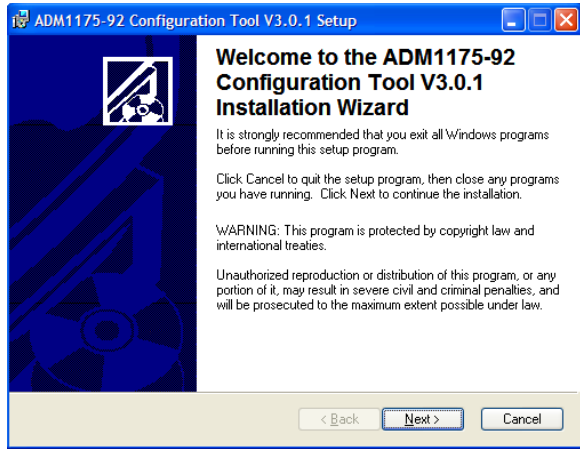

Figure 3. Evaluation Software Installation Wizard
3. Double-click **setup.exe**. The **Installation Wizard** window appears (see Figure 3).